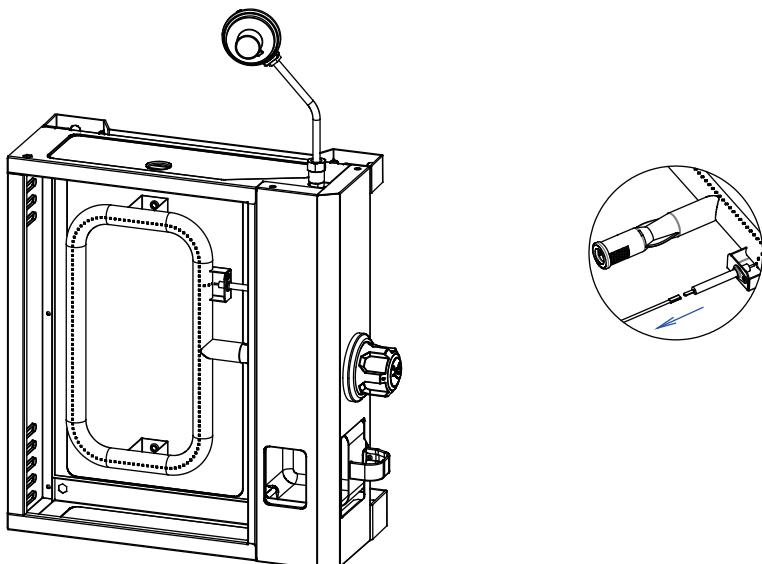

Figure 2
3. Detach ignition wire from electrode as illustrated in Figure 2 and slide burner out from firebox.